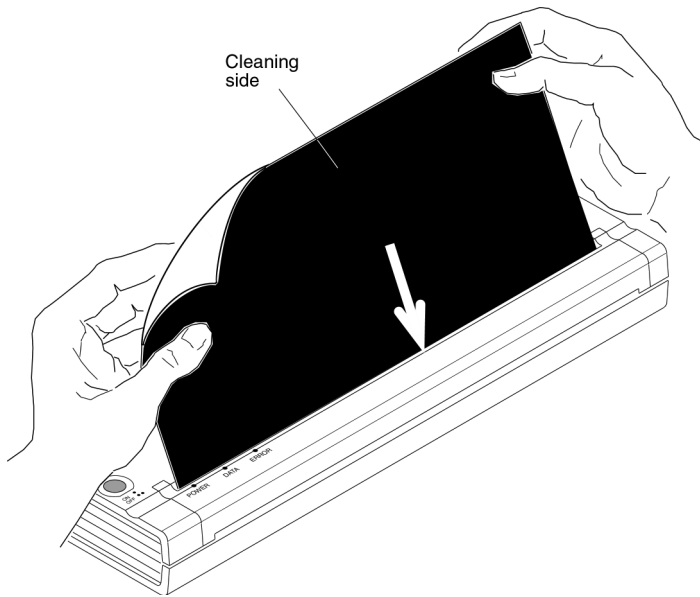

Figure 18. Cleaning the platen roller.
4. Insert the black cleaning cloth that came with the printer into the printer’s paper input slot with the rough black side, which contains the cleaning material, towards the front of the printer. See Figure 18. The printer pulls the Cleaning Cloth through.